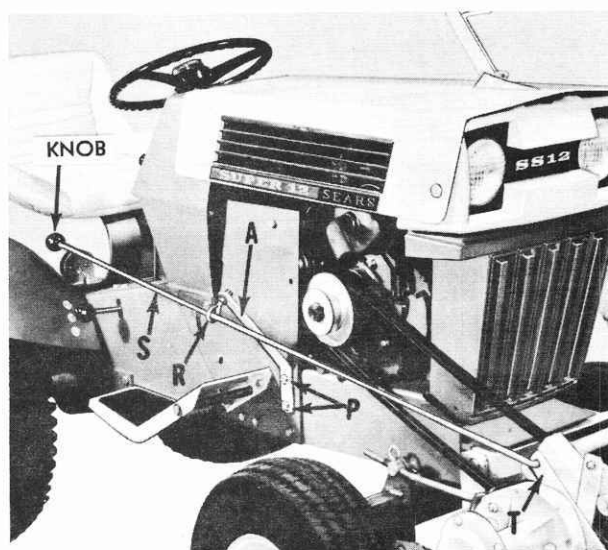

FIG. 7
13. Refer to Figure 7. Slide clutch control rod (S), through eyebolt (R), with threaded end to rear. Insert bent end of control rod (S), into hole of toggle lever assembly (T), as shown and secure with  $13/32 \times 13/16 \times 16$  Ga. washer, and  $1/8 \times 3/4$  cotter pin. Screw knob on threaded end of control rod (S), as shown. Tighten nuts on eyebolt securely. Washer, cotter, pin and control knob will be found in plastic bag.
11. Refer to Fig. 7. Remove the two upper bolts (P), in chassis channel and assemble clutch rod bracket (A), to tractor with bolts (P) removed. Tighten bolts securely.
12. Refer to Figure 7. Assemble eye bolt (R), to lower side of clutch rod bracket (A), with a keps nut on each side of bracket as shown. Leave nuts loose until after clutch rod has been installed. Keps nuts will be found in plastic bag.